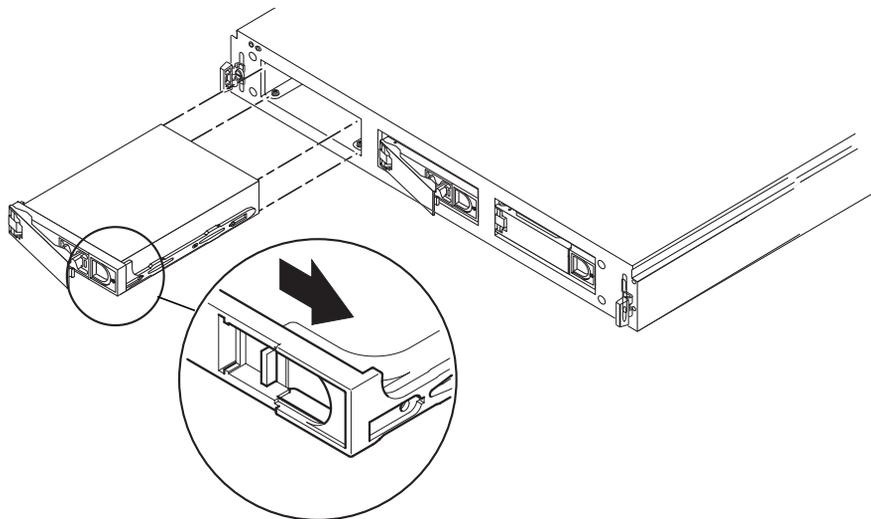

FIGURE 4-3 Removing and Replacing a Disk Drive
4. Unlatch the drive bracket handle by sliding the latch in the direction indicated in FIGURE 4-3.